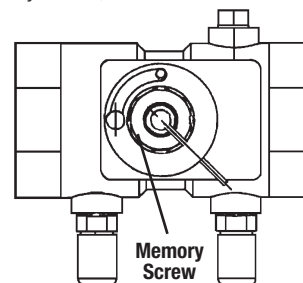

Figure 1
4. After initial pressure differential reading is taken, refer to flow rate charts to obtain flow rate based on pressure differential and valve setting. If flow rate is in excess of that specified, turn indicator towards closed position, noting pressure drop and valve setting and determining new flow rates from flow rate chart. Once correct flow rate setting has been established, slide memory stop clockwise towards open side of indicator plate until memory stop ring hits indicator plate. Do not force beyond this point. Tighten memory screw. Refer to Figure 1. The unit or system has now been balanced and the memory set.